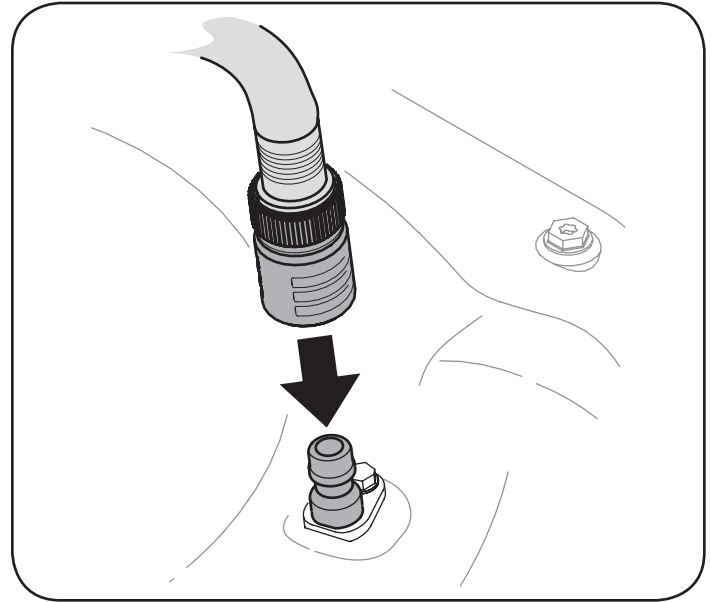

Figure 24
3. Attach garden hose with the deck wash nozzle to the water port on your deck's surface. See Figure 24.